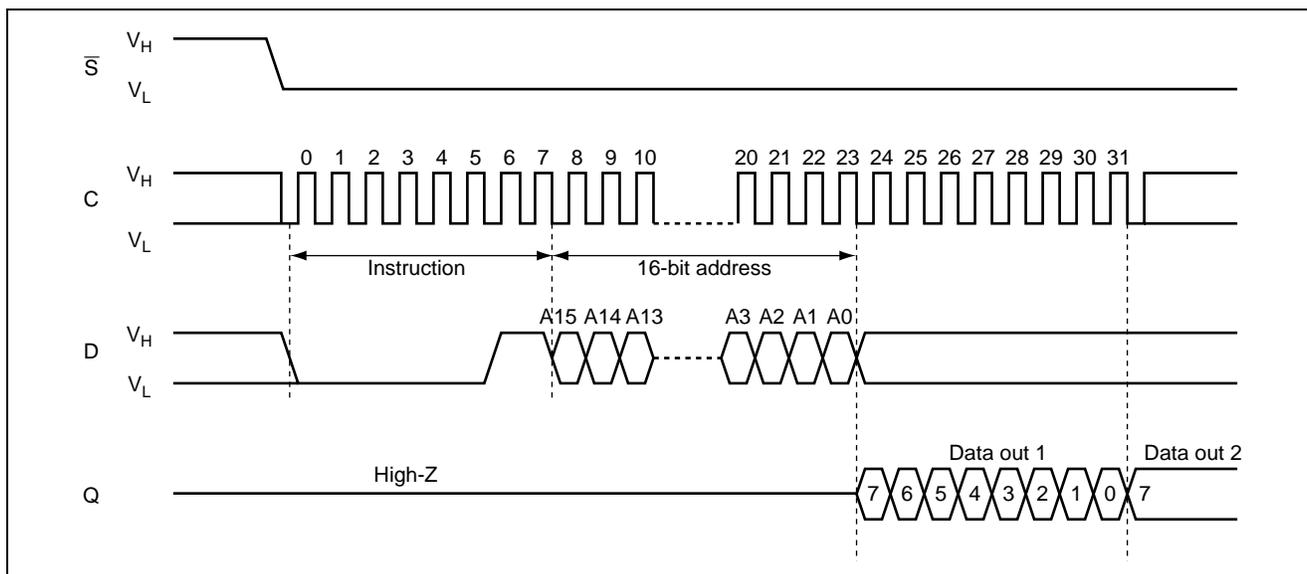

Figure 6 Read from Memory Array (READ) Sequence
As shown in figure 6, to send this instruction to the device, Chip Select ( $\bar{S}$ ) is first driven low. The bits of the instruction and address bytes are then shifted in as Serial Data Input (D). The address is loaded into an internal address register, and the byte of data at that address is shifted out as Serial Data Output (Q).